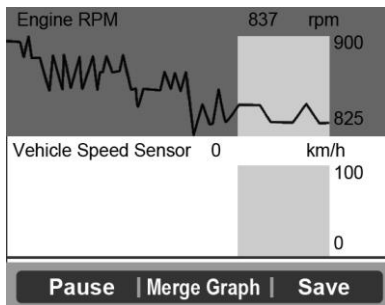

Figure 6.14
- If the “**Merge Graph**” on the bottom appears when a PID is selected to view, merged graph information is available (Figure 6.14).